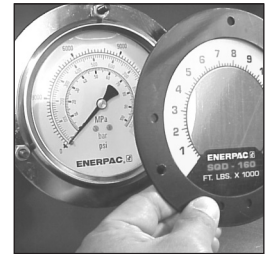

Figure 10
2. Remove the front flange and overlay (see Fig. 10.)
4. While holding the overlay behind the flange (see Fig. 10.) insert the flange onto the knob studs, repositioning the overlay as needed, and secure knobs finger tight (see Fig. 9).